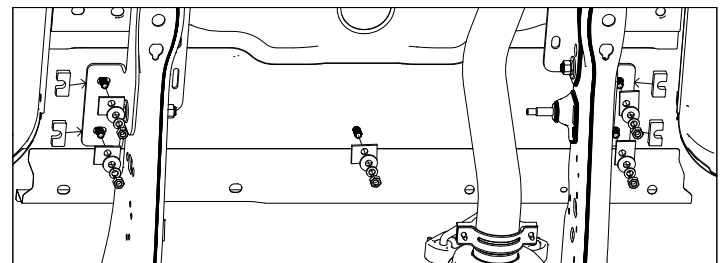

Figure E4: View looking up at underside of bed.
- 4. Install the forward mounting rail, cont.** Under the bed install offset square washers, 1/2" flat washers, 1/2" lock washers, and 1/2" finish nuts on each of the carriage bolts, see Figure E4. Use U-shaped spacers under the four outside mounting locations. Hand tighten each nut.